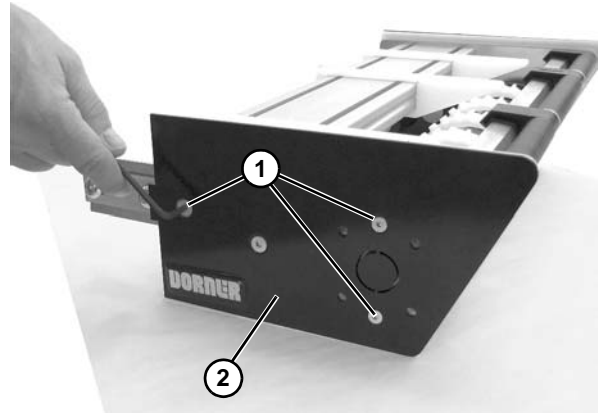

Figure 63
4. Remove the three socket head screws (Figure 63, item 1) from cover plate (Figure 63, item 2).